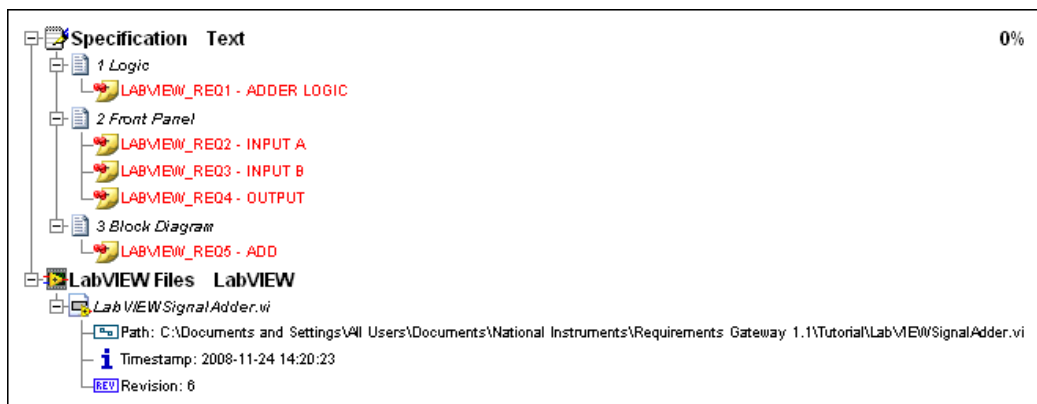

Figure 8-2. LabVIEW Document Expanded in the Management View
17. Expand the two documents in the Management View, as shown in Figure 8-2. Requirements Gateway displays the LabVIEWSignalAdder.vi file under the LabVIEW Files document.